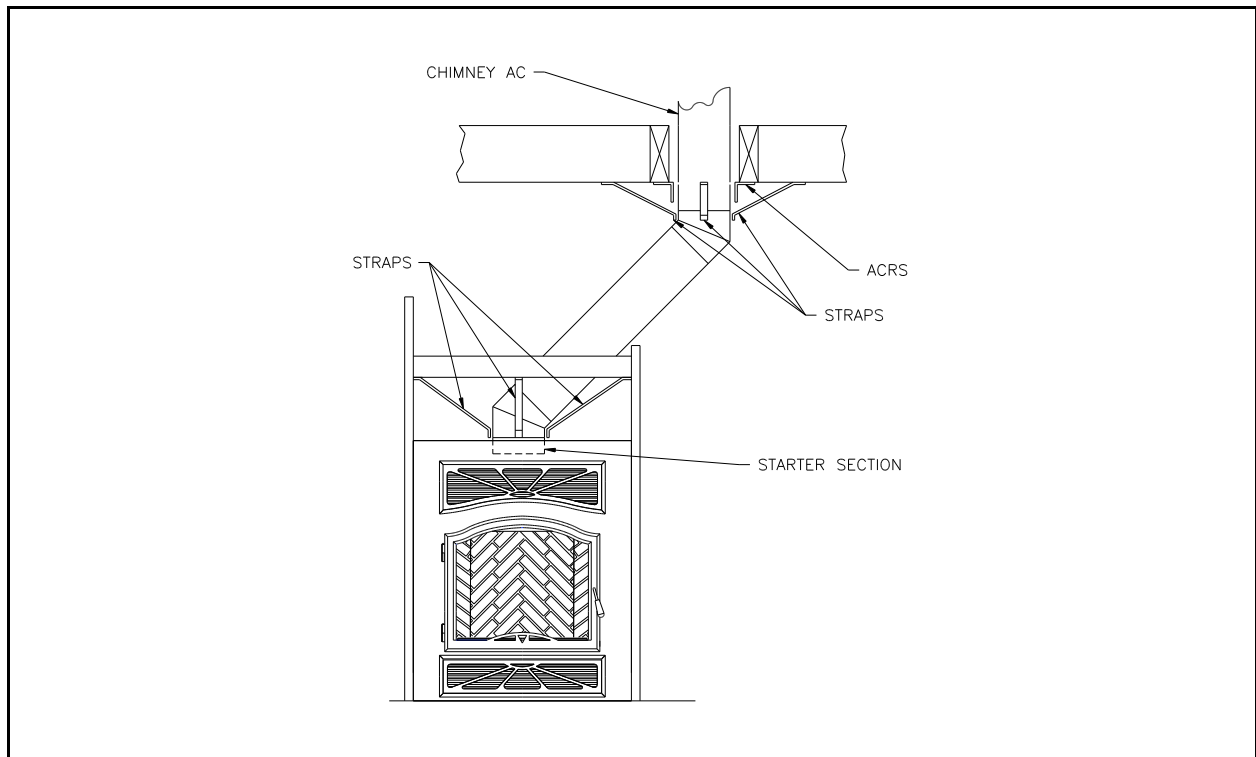

Figure 31
1. Install the first elbow. Turn it in the required direction. To lock it in place, turn 1/8 of a turn. Fasten the straps attached to the elbow to the surrounding frame, using nails or drywall screws (figure 31).